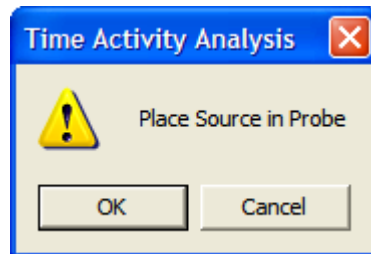

Figure 9-6
2. The screen shown in Figure 9-6 will appear.